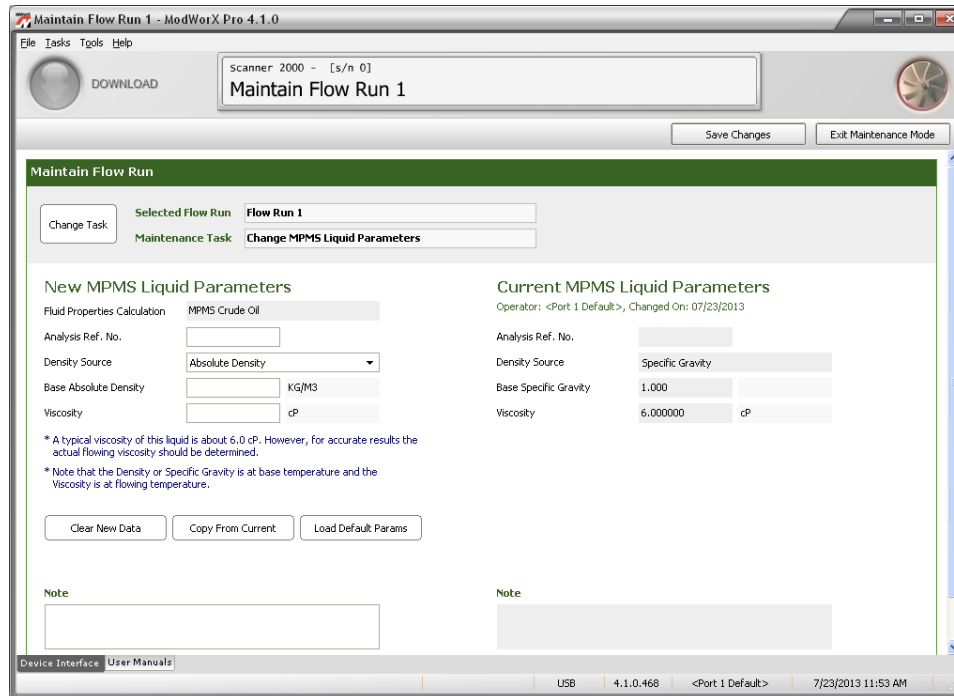

Figure 10.15
- b. Click **OK** to save the settings and return to the Maintain Flow Run screen (Figure 10.15, page 146).